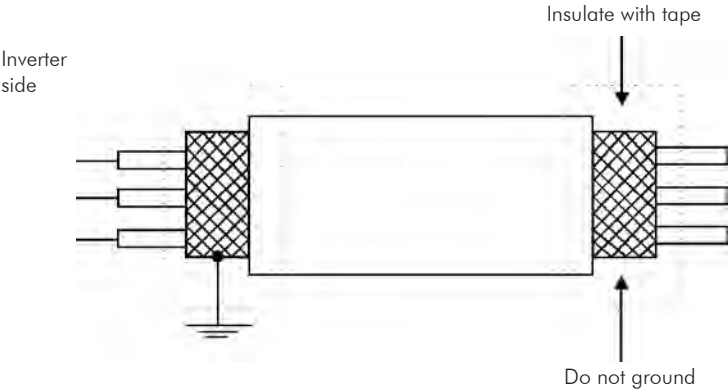
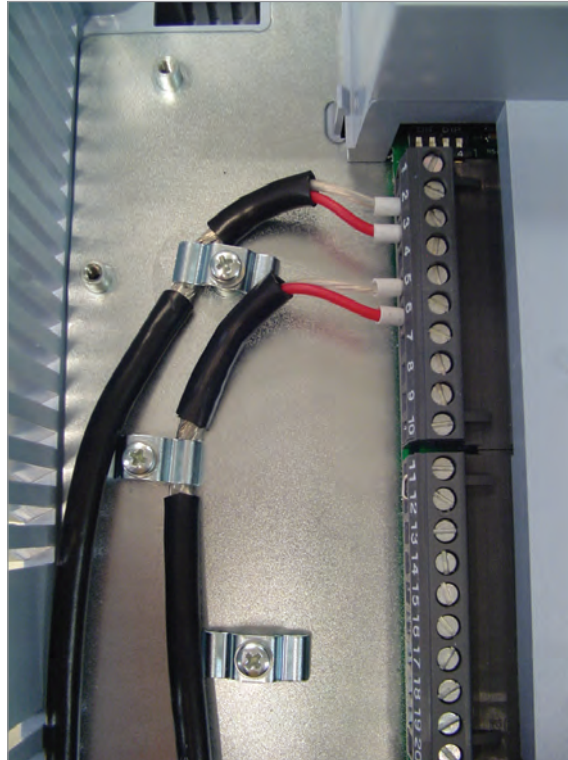

Figure 3.20 - Shield connection
Figure 3.21 - Example of control wiring shield connection
4. The correct connection of the cable shield is shown in Figure 3.20 on page 3-34 and Figure 3.21 on page 3-35.